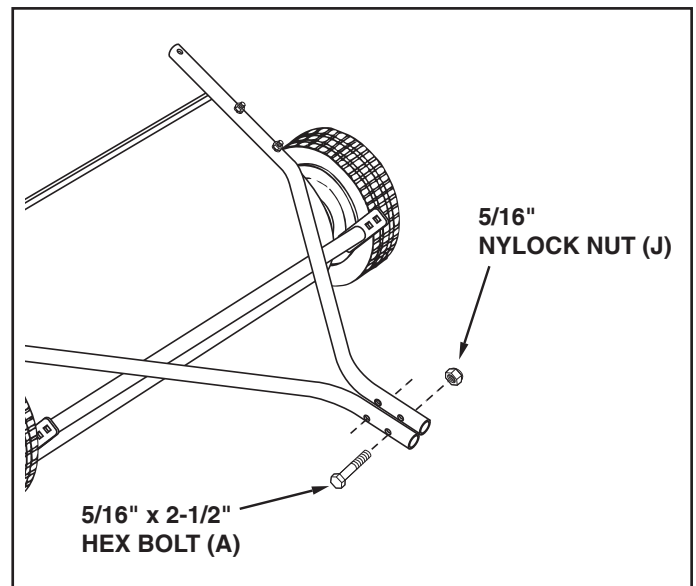

FIGURE 5
STEP 5: (SEE FIGURE 5)
- Fasten the hitch tubes together using two 5/16" x 2-1/2" hex bolts (A) and 5/16" nylock nuts (J). **Do not tighten yet.**